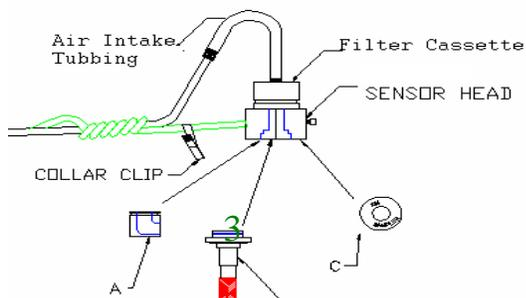

Figure 1
- Connect the appropriate sampling inlet to the sensor head, see figure 1 & 2.